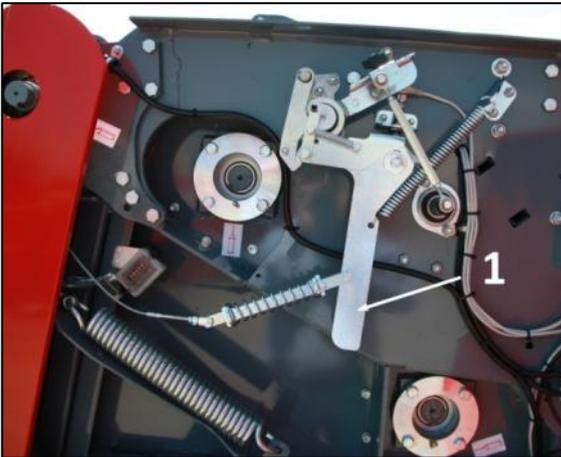

Fig. 19 Rearment knife
4.9.1 REARMEMENT OF KNIFE NET BINDING (Fig. 19)